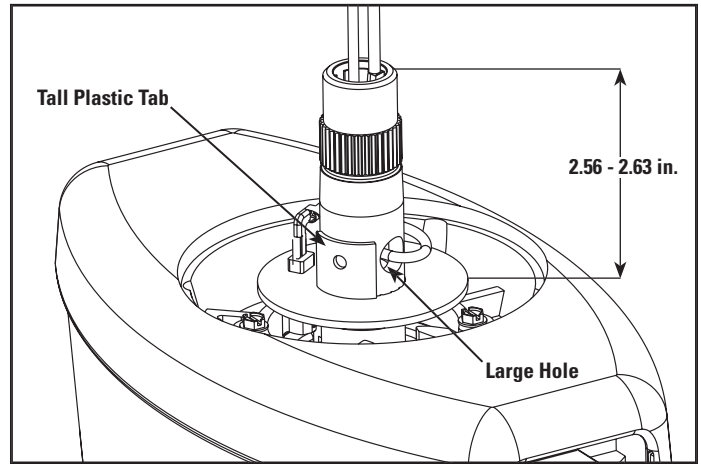

Figure 2
7. The new contact ring should be oriented with the tall plastic tab with the screw hole just to the clockwise side of the large hole. This puts the cancel pin in approximately the 5 o'clock position. Carefully press the new contact ring down on the shaft until the top of the wide flat surface is between 2.56 and 2.63 inches from the top of the shaft. The centerline of the hole in the tab should be at the same height as the centerline of the large hole. Be sure that the large hole is not covered so that the horn wire can be re-installed. The cancel pin should be located at approximately the 5 o'clock position. The horn contact should be compressed against the underside of the contact ring, but not bottomed out. Reposition if necessary. (Figure 2)